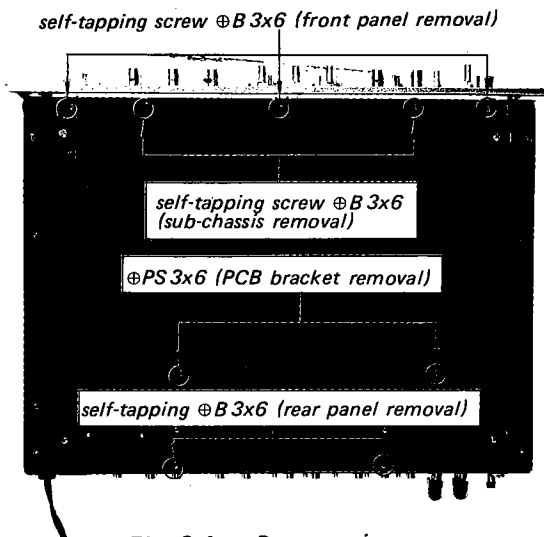
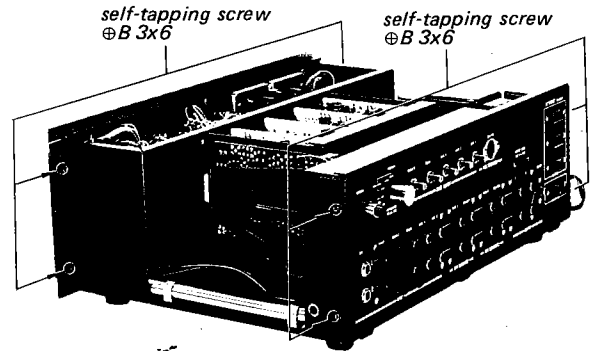

Fig. 2-4. Bottom view
Fig. 2-5. Front-subchassis and rear panel removal
5. Remove the three self-tapping screws (⊕ B 3x6) at the front bottom of the chassis as shown in Fig. 2-4. This frees the front panel.
2. Remove the two self-tapping screws ( $\oplus B 3 \times 6$ ) at each side of the chassis (see Fig. 2-5) and two self-tapping screws ( $\oplus B 3 \times 6$ ) at the front bottom of the chassis as shown in Fig. 2-4. This frees front subchassis.
2. Remove the two screws (⊕ PS 3×6) securing the PCB mounting bracket to the chassis from the bottom as shown in Fig. 2-4. This frees the bracket, and now the PCB's can be simply pulled out.
2. Remove the two self-tapping screws (⊕ B 3×6) at each side of the rear panel as shown in Fig. 2-5.
3. Remove the two self-tapping screws (⊕ B 3×6) at rear edge of the bottom as shown in Fig. 2-4. This frees the rear panel.